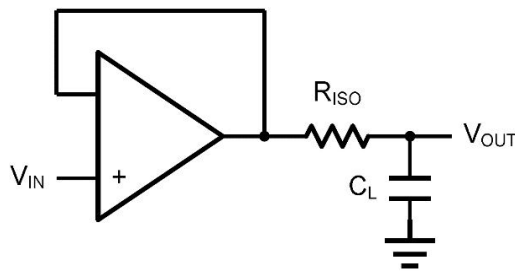
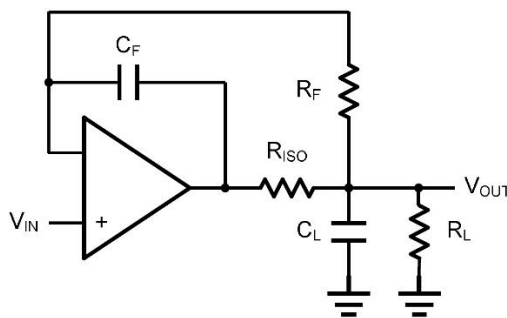

Figure 2. Indirectly Driving a Capacitive Load Using Isolation Resistor
Figure 3. Indirectly Driving a Capacitive Load with DC Accuracy
The CBM6041 family is optimized for bandwidth and speed, not for driving capacitive loads. Output capacitance will create a pole in the amplifier's feedback path, leading to excessive peaking and potential oscillation. If dealing with load capacitance is a requirement of the application, the two strategies to consider are (1) using a small resistor in series with the amplifier's output and the load capacitance and (2) reducing the bandwidth of the amplifier's feedback loop by increasing the overall noise gain. Figure 2. shows a unity gain follower using the series resistor strategy. The resistor isolates the output from the capacitance and, more importantly, creates a zero in the feedback path that compensates for the pole created by the output capacitance.
The circuit in Figure 3 is an improvement to the one in Figure 2. R_F provides the DC accuracy by feed-forward the V_{IN} to R_L . C_F and R_{ISO} serve to counteract the loss of phase margin by feeding the high frequency component of the output signal back to the amplifier's inverting input, thereby preserving the phase margin in the overall feedback loop. Capacitive drive can be increased by increasing the value of C_F . This in turn will slow down the pulse response.